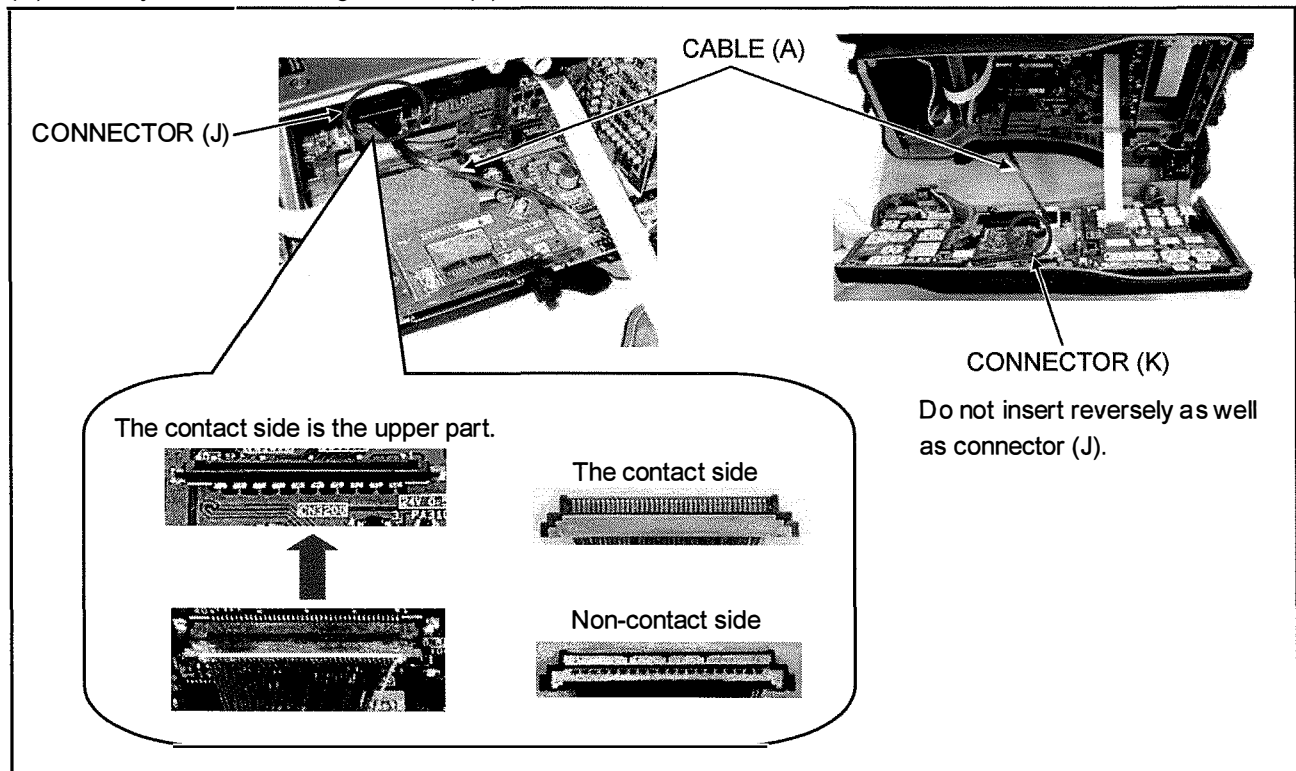

Figure 9-4
Be careful when you connect the cable (A) shown in figure 9-4 with the P.C.Board. In connector (J) shown in figure 9-4, the contact side is the upper part. Confirm that the contact side and do not insert the connector of cable (A) reversely when connecting the cable (A).